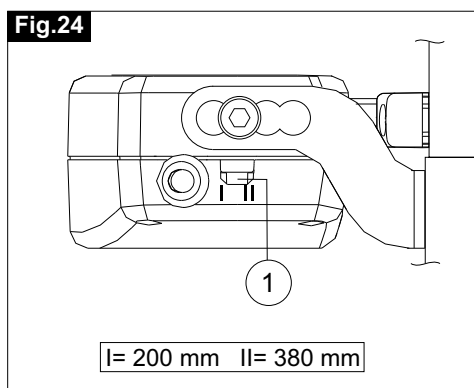

Fig.25
- 2) **Fig. 25**- With a pencil draw the centre line "Y" of the window frame;